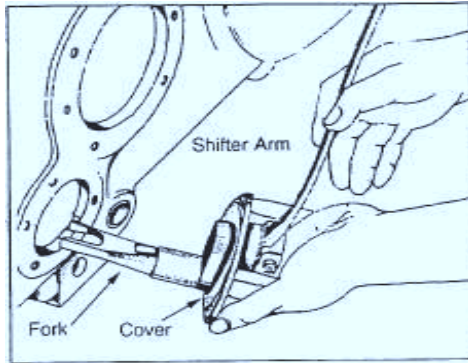

Figure 6
4. With a new gasket in position install the shifter mechanism on the rear axle center housing. Figure 6 making sure that the fork is engaged with sleeve.